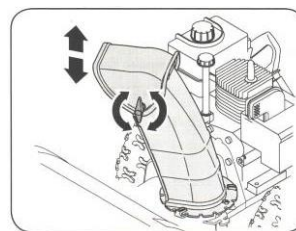

Figure 33
2. Pivot the chute upward or downward before retightening the wing knob, See Figure 33.